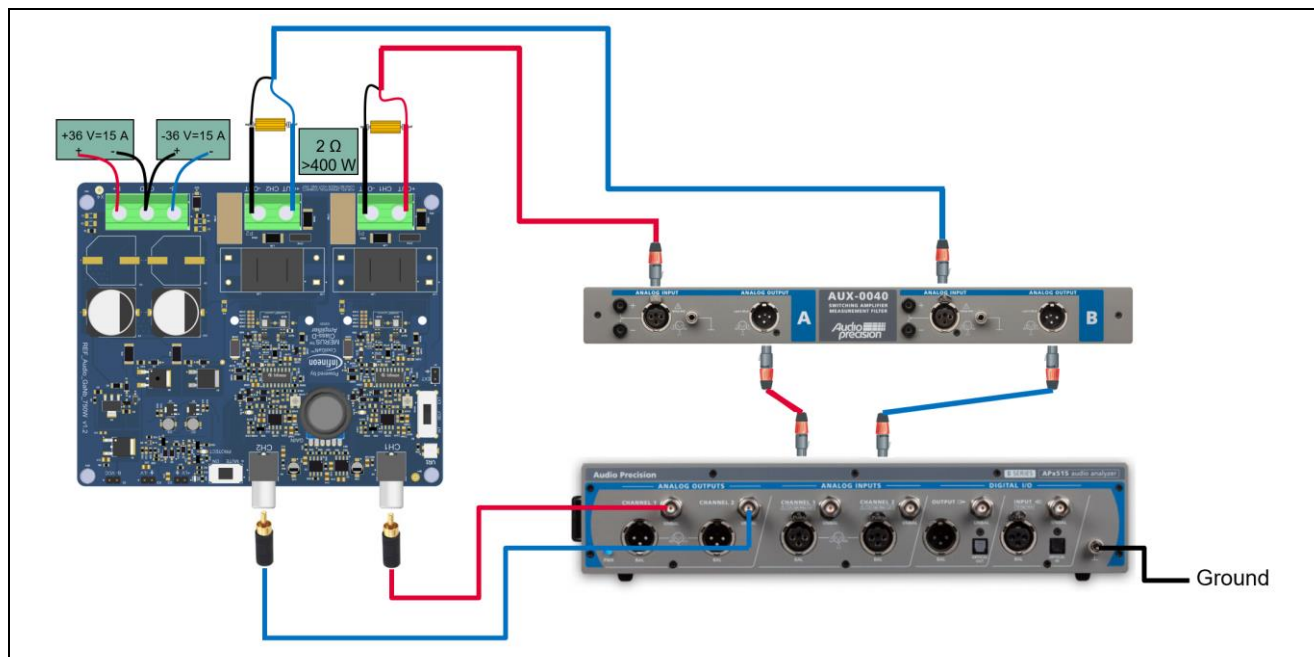
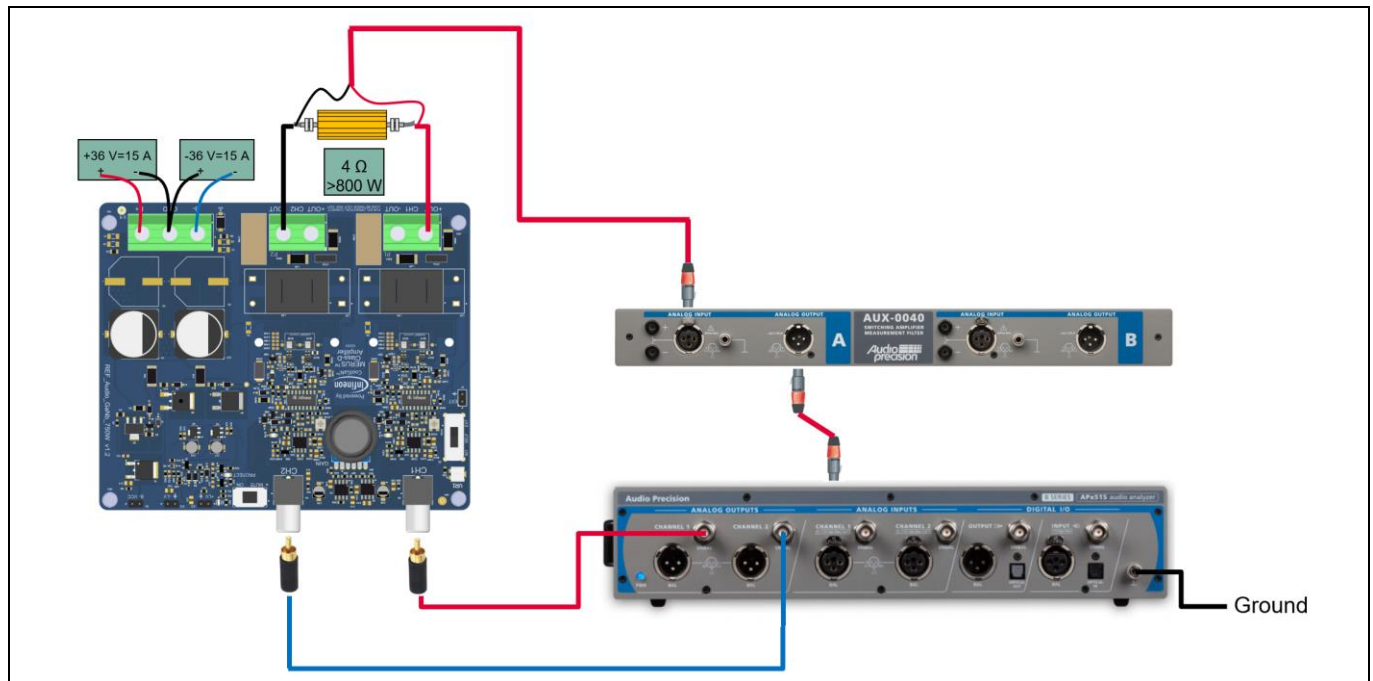

Figure 5 Typical operation setup for SE operation of REF_Audio_GaNb_750W
Figure 6 Typical operation setup for BTL operation of REF_Audio_GaNb_750W
1. For SE, connect $2\ \Omega > 400\text{ W}$ capable dummy loads according to Figure 5
2. For BTL, connect $4\ \Omega > 800\text{ W}$ capable dummy load according to Figure 6
3. Connect the audio analyzer according to Figure 5 for SE and Figure 6 for BTL
4. Connect the **Audio Signal Generator** (ASG) of AP to X5 and X6 as shown in Figure 5
10. Connect the dual power supply to X4 as shown in Figure 5